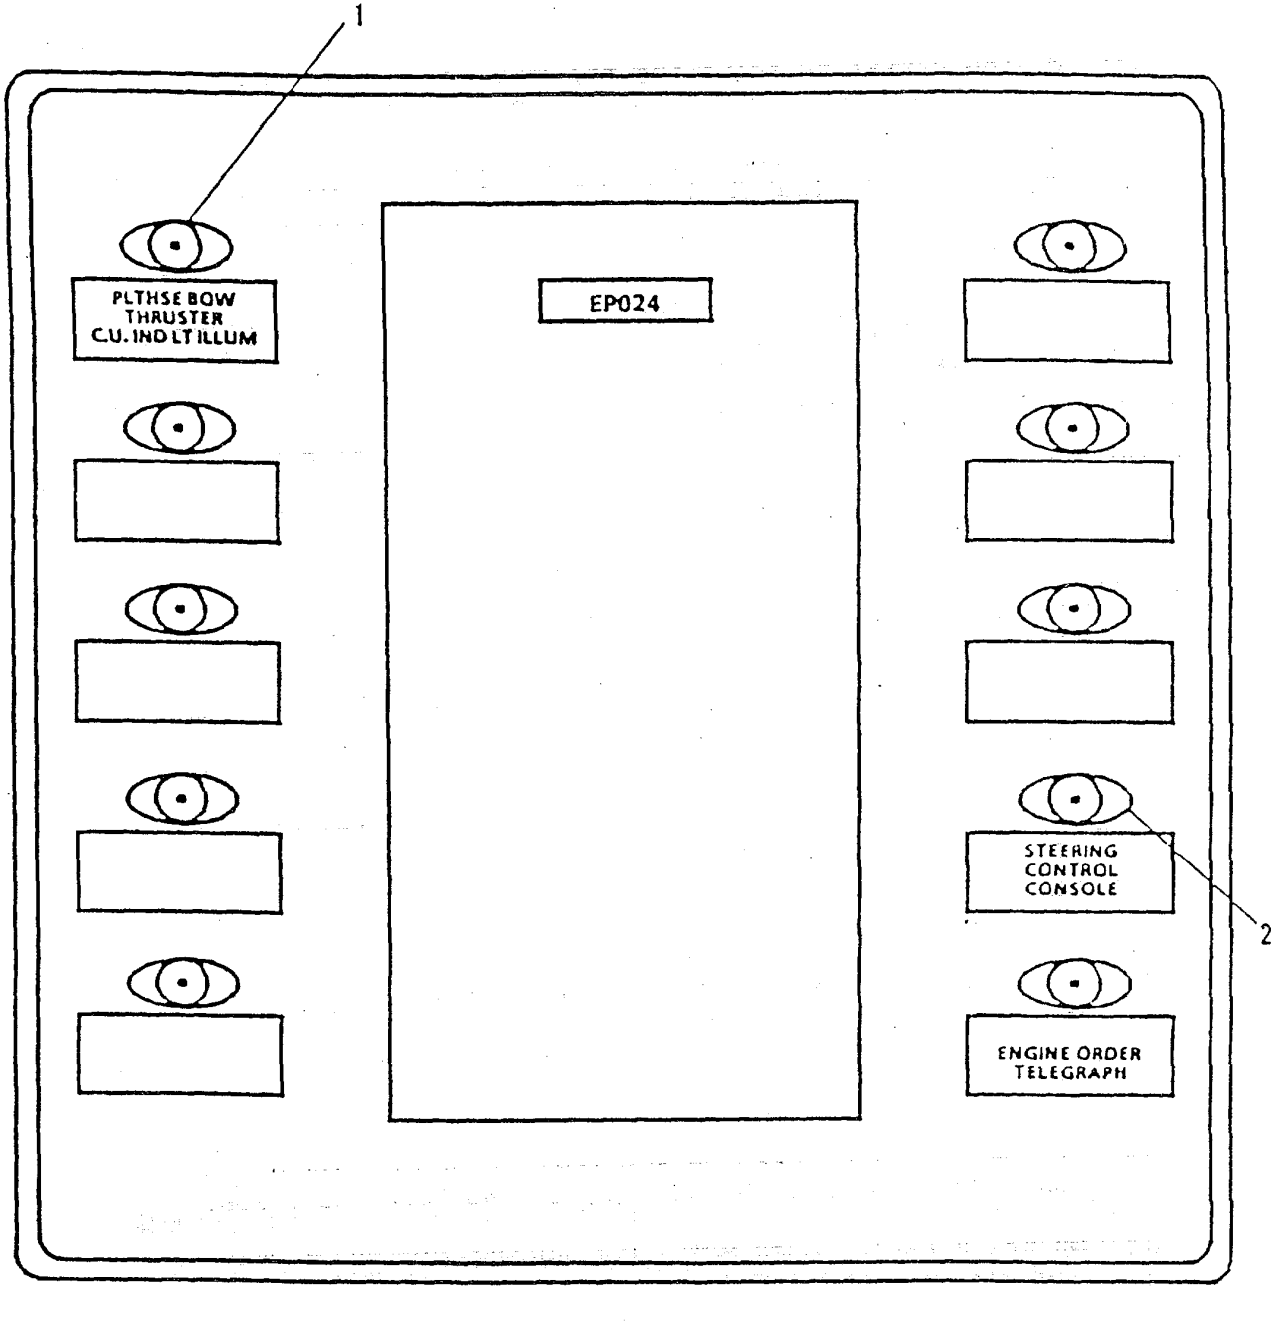

FIGURE 2-149.5. Power Panel Box
- (18) Ensure that the 24 VOLT DISTRIBUTION PANEL (FIGURE 2-149.5) , located in the communications area, "STEERING CONTROL CONSOLE SWITCH" (2) is in the "ON" position.
- (3) On the 24 VOLT DISTRIBUTION PANEL J(FIGURE 2-149.5) set the "STEERING CONTROL CONSOLE SWITCH" (2) to the "OFF" position.